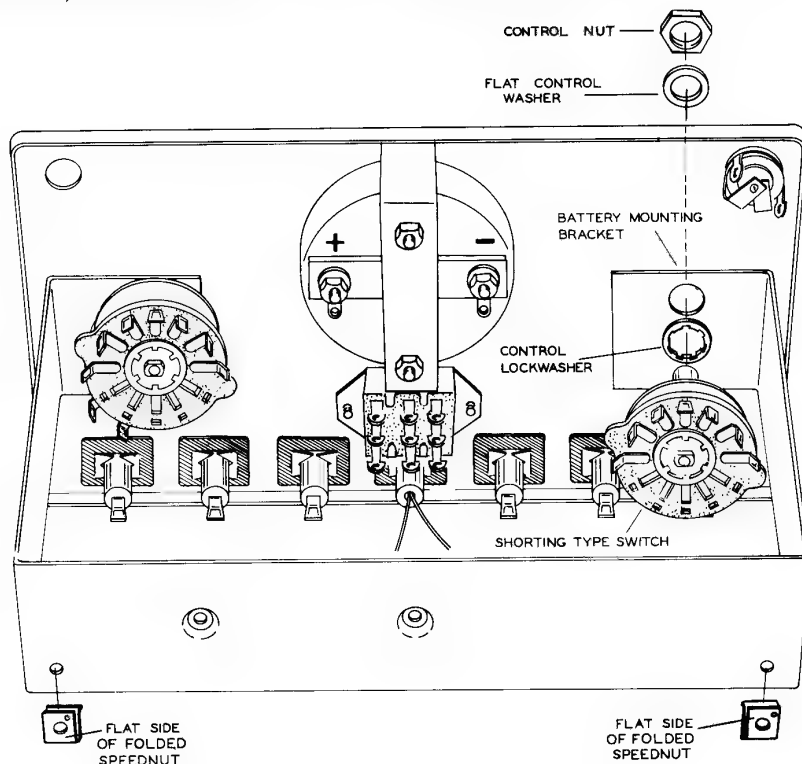

Figure 2-8
- ✓ After removing the knob, fasten the "shorting type" switch (#63-199) and battery holder bracket to the panel above the letters "DC Milliamps" with the blank contact #4 on the switch pointing between the banana jacks directly below the switch. See Figure 2-8 for mounting procedure, and switch Figure 2-7 for blank contact #4.
- (✓) Place the two folded speednuts on the back flange of the battery mounting bracket in line with the holes provided. See Figure 2-8.